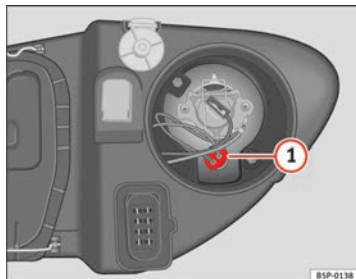

Fig. 185 Side lights
- Extract the bulb holder => fig. 185 **1** outwards.